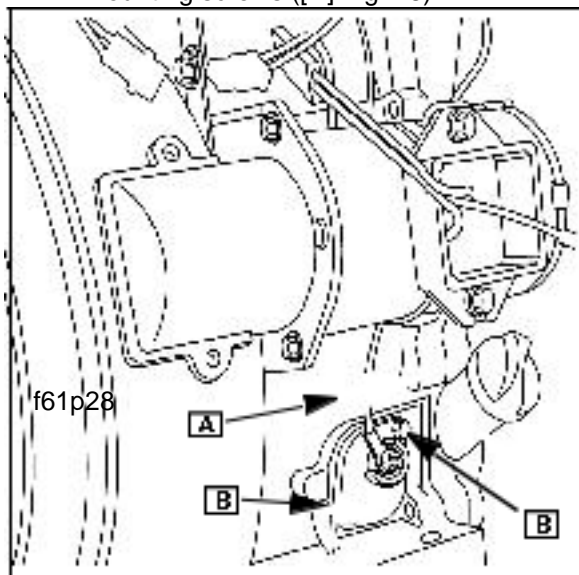

Fig. 28
Disconnect wire (A) from float assembly terminal and remove mounting screws (B) Fig. 28).